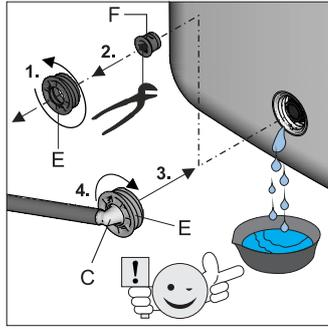

Fig. 5-5 Working steps 4 + 5
5. Unscrew the threaded piece (fig. 5-5, item E) at the filling and draining connection, and remove the plug (fig. 5-5, item F) and immediately screw in the pre-assembled hose connector (fig. 5-5, item C) into the filling and draining connection again.